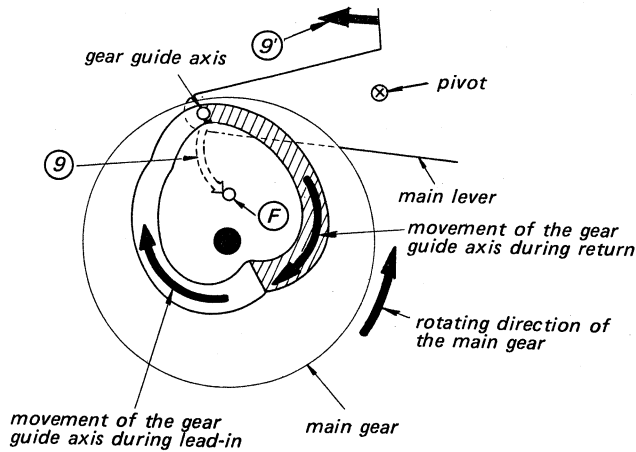

Fig. 3-7.
3. Once the revolving center gear engages the sub-gear (L), the main gear will commence to rotate in the counterclockwise direction due to the driving force supplied by the motor. It will stop again in the position shown in Fig. 3-7.
3. While the record is being played, the main gear and main lever are in the positions as shown in Fig. 3-7.
5. The gear guide axis at the tip of the main lever is moved across to position (F) by following the curved path (9) due to the guiding action of the shaded portion of the groove in the heart-shaped cam positioned on the main gear. The main lever consequently moves across in the direction of the arrow (9) (see Fig. 3-7).